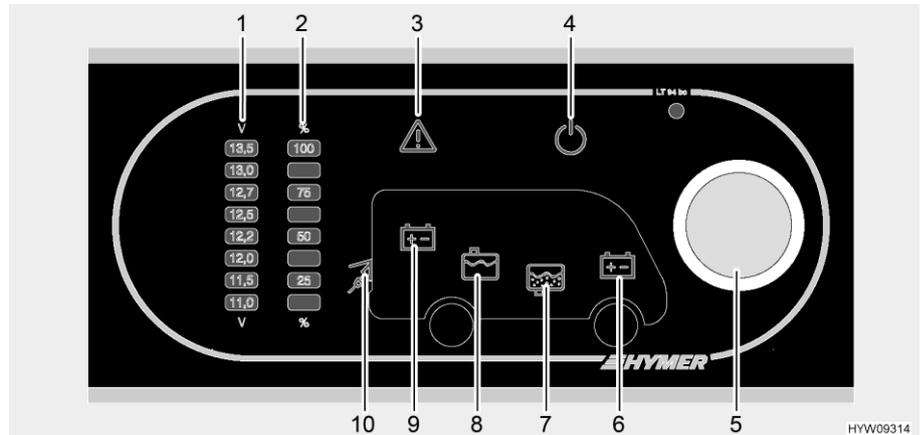

Fig. 97 Panel (LT 94)
The rotary knob (Fig. 97,5) switches the panel and the 12 V power supply to the living area on and off.
*Switching on:* ■ Press the rotary knob (Fig. 97,5): The 12 V living area power supply is switched on. The 12 V indicator lamp (Fig. 97,4) lights up.
*Switching off:* ■ Press the rotary knob (Fig. 97,5): The 12 V living area power supply is switched off. The 12 V indicator lamp (Fig. 97,4) goes off.
Use the rotary knob (Fig. 97,5) for reading the voltage of the living area battery as well as that of the starter battery. The voltage is displayed on the indicator scale for battery voltage (Fig. 97,1).
- Turn the rotary knob (Fig. 97,5) until the symbol for the desired battery lights up.
Living area battery voltage is displayed (Fig. 97,9)
Starter battery voltage is displayed (Fig. 97,6)
- Read the voltage from the indicator scale for battery voltage (Fig. 97,1). The following tables will help you to correctly interpret the battery voltage display.
Use the rotary knob (Fig. 97,5) for checking the fill level of the water tank or the waste water tank. The fill level is displayed on the indicator scale for the tank fill level (Fig. 97,2).
*Displays:* ■ Turn the rotary knob (Fig. 97,5) until the symbol for the desired tank lights up.
The level of the water tank is displayed (Fig. 97,8)
The level of the waste water tank is displayed (Fig. 97,7)
■ Read the level from the indicator scale for the tank fill level (Fig. 97,2).
The Alarm warning light (Fig. 97,3) flashes if set limit values are exceeded or fallen below.
The Alarm warning light (Fig. 97,3) flashes if the battery voltage falls below 11 V. If the 12 V power supply is switched on, the relevant battery symbol (Fig. 97,6 or 9) also lights up and "11.0" starts flashing on the indicator scale for battery voltage (Fig. 97,1). Danger of total discharge.
**Tank alarm** The Alarm warning light (Fig. 97,3) starts to flash and the corresponding tank symbol (Fig. 97,7 or 8) lights up as soon as the water tank is empty or the waste water tank is full.
The 230 V indicator lamp (Fig. 97,10) illuminates whenever line voltage is available at the transformer/rectifier input.